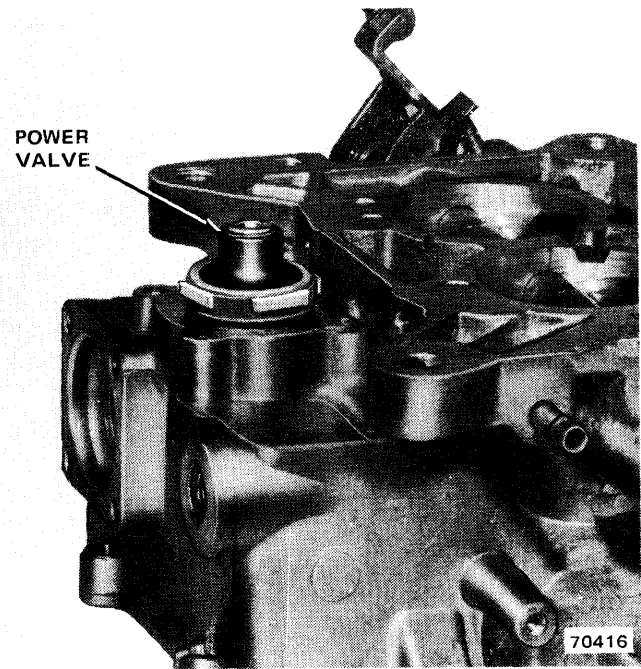

Fig. 4-103 Removing Power Valve
(17) Invert main body and remove power valve cover, gasket and screws. Remove power valve with 1-inch socket (fig. 4-103). Remove and discard power valve gasket.
(18) Remove limiter caps from idle mixture adjusting screws, using soldering gun to cut through limiter caps. Remove idle mixture adjusting screws and springs.
(19) Remove solenoid.